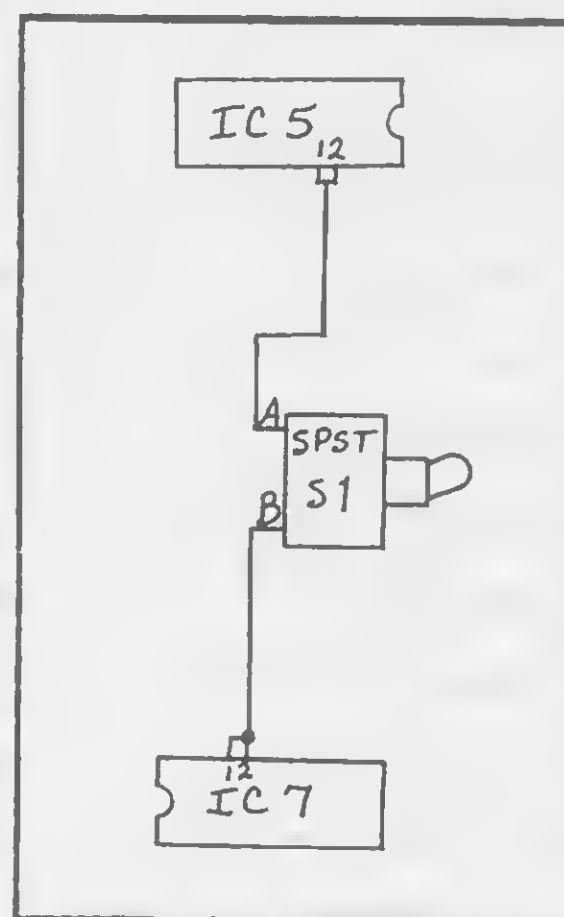

FIGURE 1. SUPER GALAXY
THIS CIRCUIT PICKS UP THE 'A' CHANNELS AND SKIPPED CHANNELS IN CONVERSIONS. REFER TO FIGURE 1. USE A PERF BOARD TO BUILD CIRCUIT ON.
1. BUILD THE CIRCUIT DIAGRAMMED IN FIGURE 1.